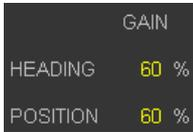

Figure 60: Gain Display
1. Locate the GAIN display and input box in the lower left of the MAP screen (*Figure 60: Gain Display* on page 67) in the position settings display area.